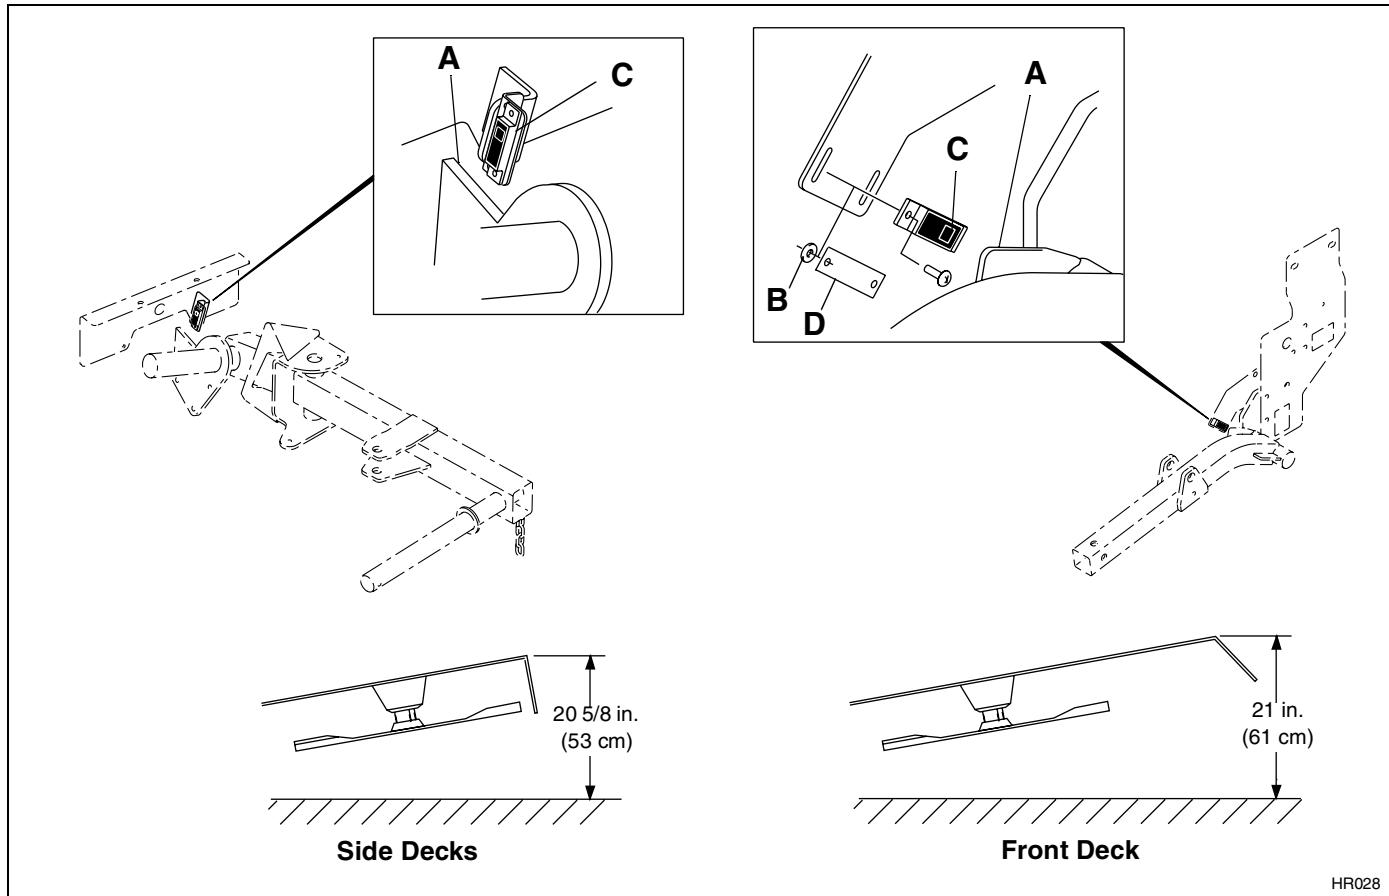

Figure 3K
2. Start tractor and raise or lower decks until the highest point on the top corner of the deck reaches the height shown in Figure 3K.